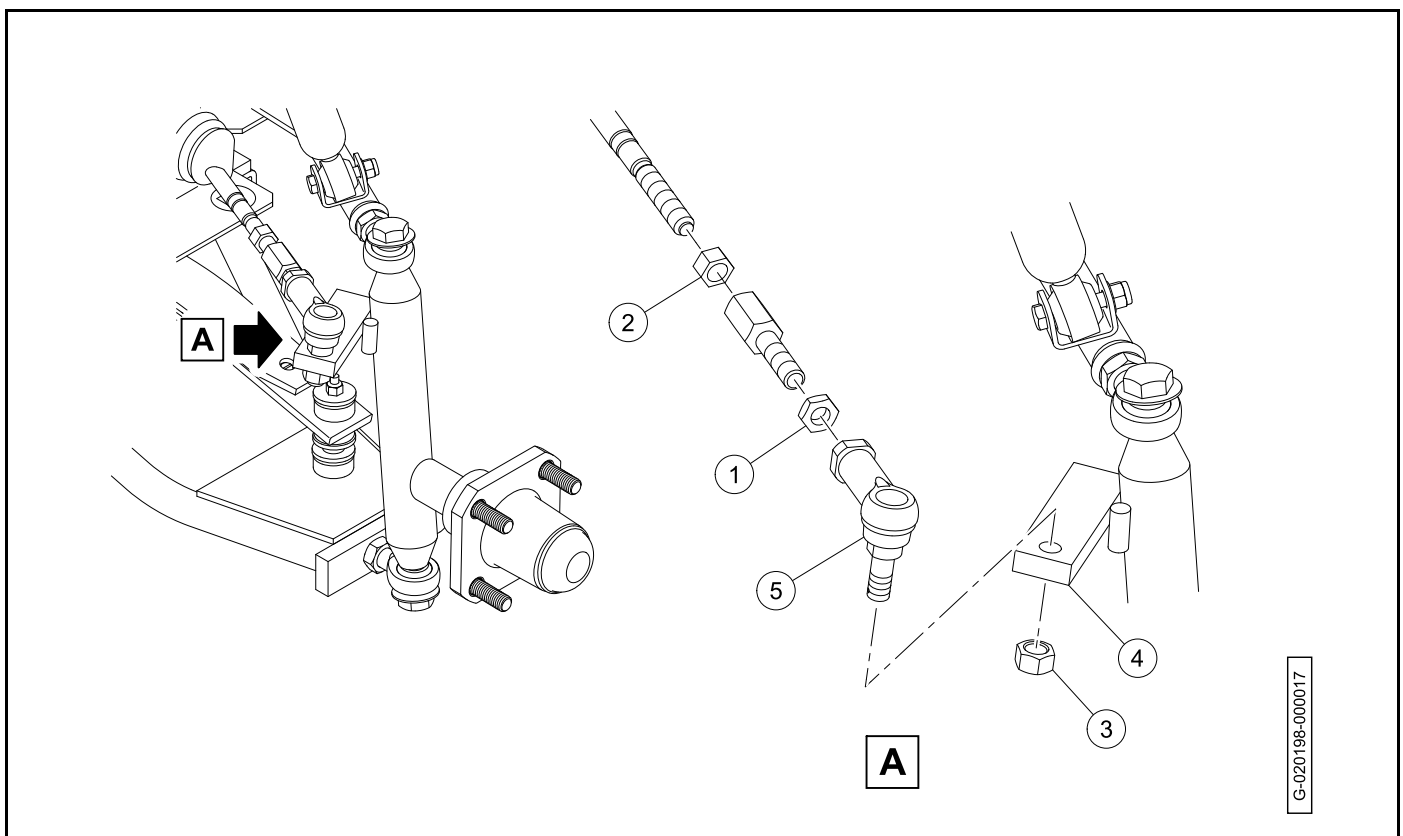

Figure 7-36
2. Loosen the jam nuts (1 and 2) (**Figure 7-36**).